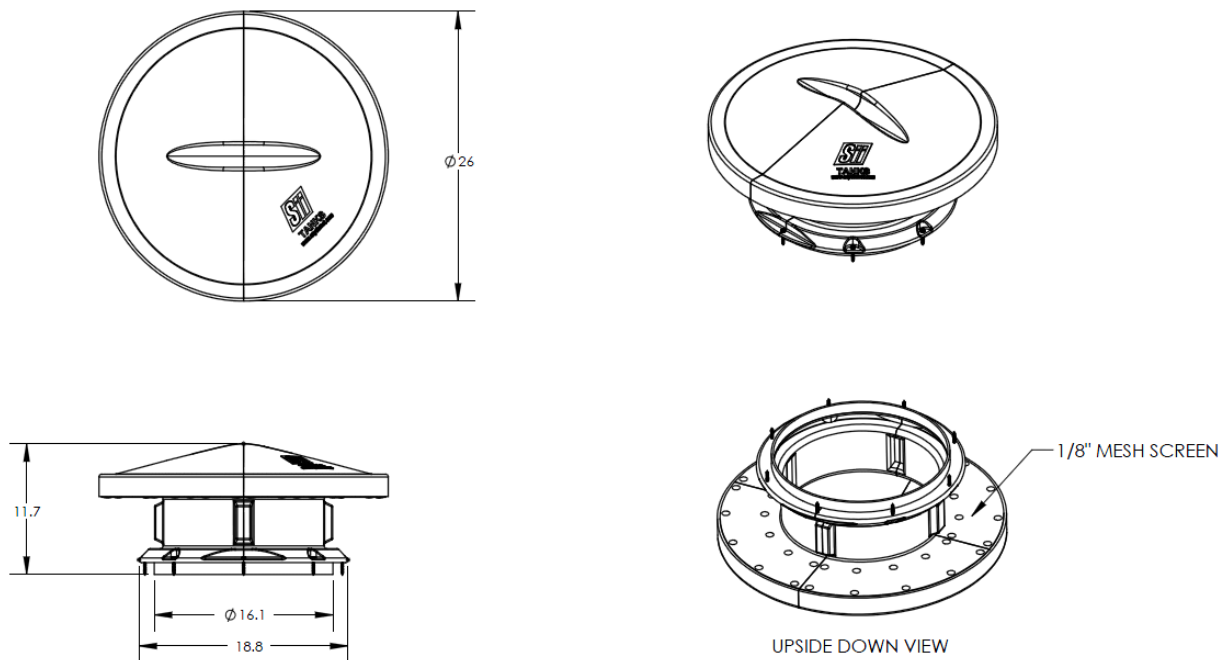
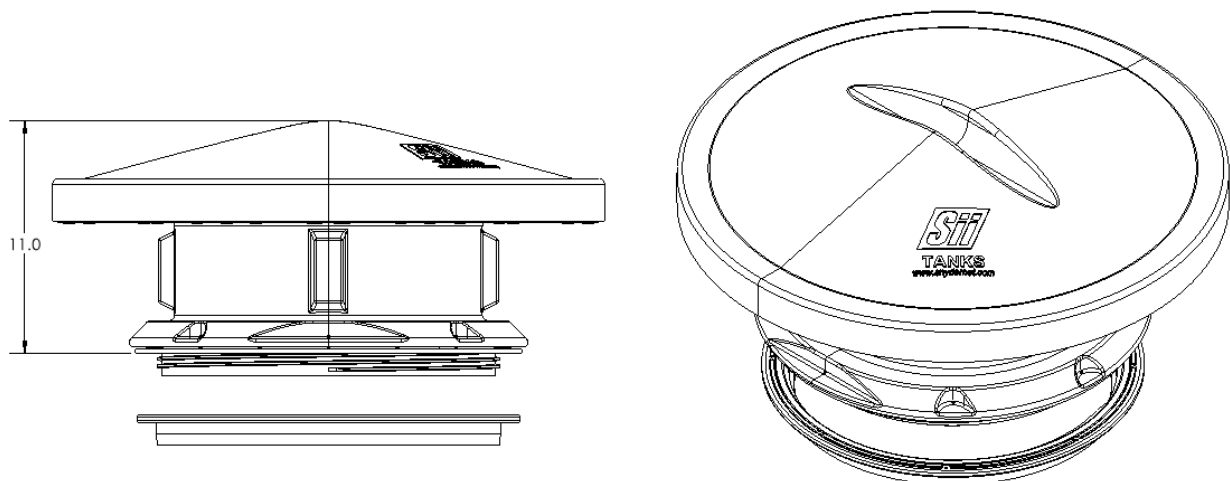

Figure 7.2.2
Figure 7.2.3
7.2.2 The 18" mushroom vent (fig 7.2.2) or threaded (fig 7.2.3) is a solution to undersized venting problems. Such as: in cases of pneumatic filling. It's a rotationally molded 18" vent that can be attached to any tank that has at least 19" diameter of flat area (non-threaded) or it can be installed in the 18" manway ring (threaded). The vent is installed by simply cutting the hole and attaching it with the 8 screws provided and sealing with silicone (non-threaded) or by removing the threaded manway and threading in the mushroom vent (threaded).